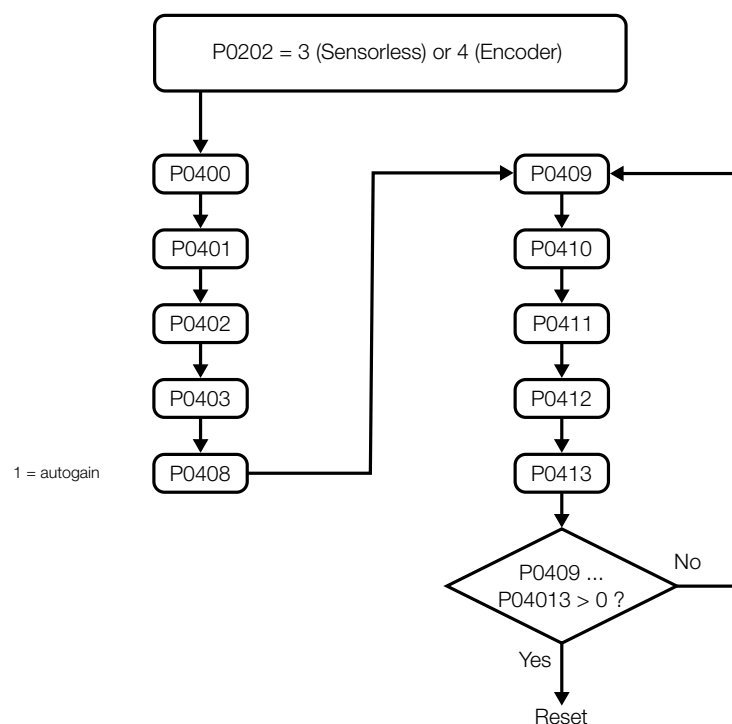

Figure 5.21 – Guided start-up routine sequence
- When P0202 is programmed for sensorless vector (P0202 = 3) or vector with encoder (P0202 = 4), the inverter enters the guided start-up routine (refer to Figure 5.21 on page 5-29).